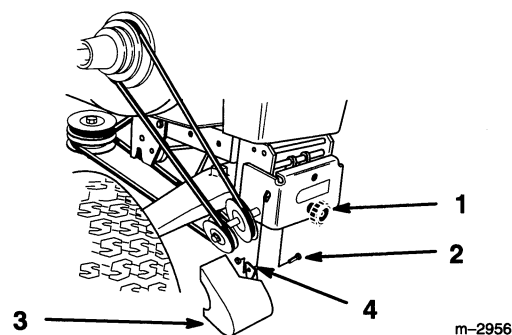

Figure 32
2. Turn knob on idler assembly clockwise to loosen belt (Fig. 32).
3. Remove bolt, locknut and belt cover from idler assembly. (Fig. 32).